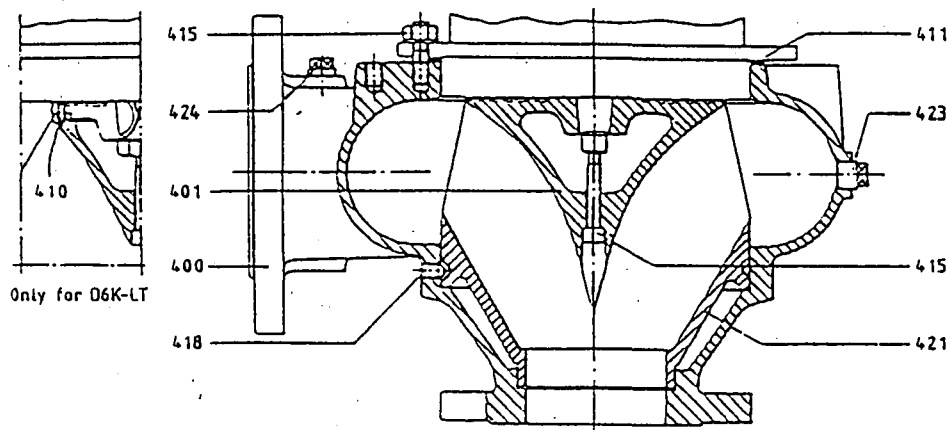

Figure 15 D3K, D4K, E4T
These pumps have a non-adjustable liner (421) held in a fixed position inside a one-piece volute casing. After removal of the three allen-head setscrews (418), this liner can be pressed out of the casing. See Figure 15.
**(a) FOR D3K, D4K,E4T (See Figure 15)**